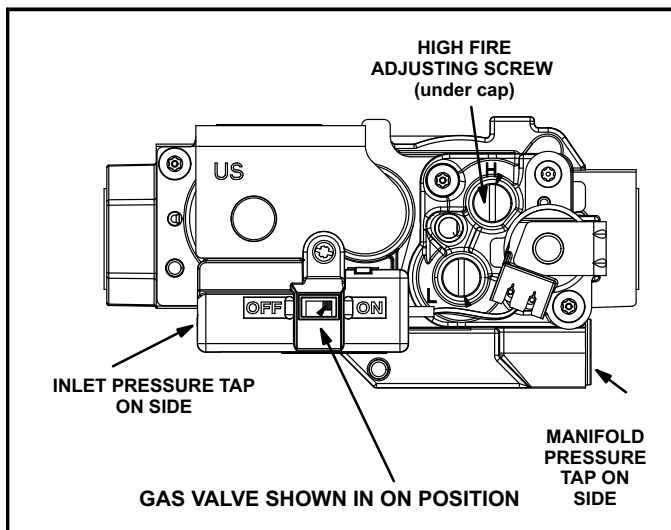

FIGURE 14
All units use a two-stage gas valve manufactured by Honeywell (figure 14). The valve is internally redundant to assure safety shut-off. If the gas valve must be replaced, the same type valve must be used.
- 6 - Turn switch on gas valve clockwise ➡ to **OFF**. Do not force. See figure 14.
8 - Turn switch on gas valve counterclockwise ↶ to **ON**. Do not force. See figure 14.
- 1 - Connect test gauge to manifold pressure tap (figure 14) on gas valve.
- 4 - If necessary, make adjustments. Figure 14 shows location of high fire adjustment screw.